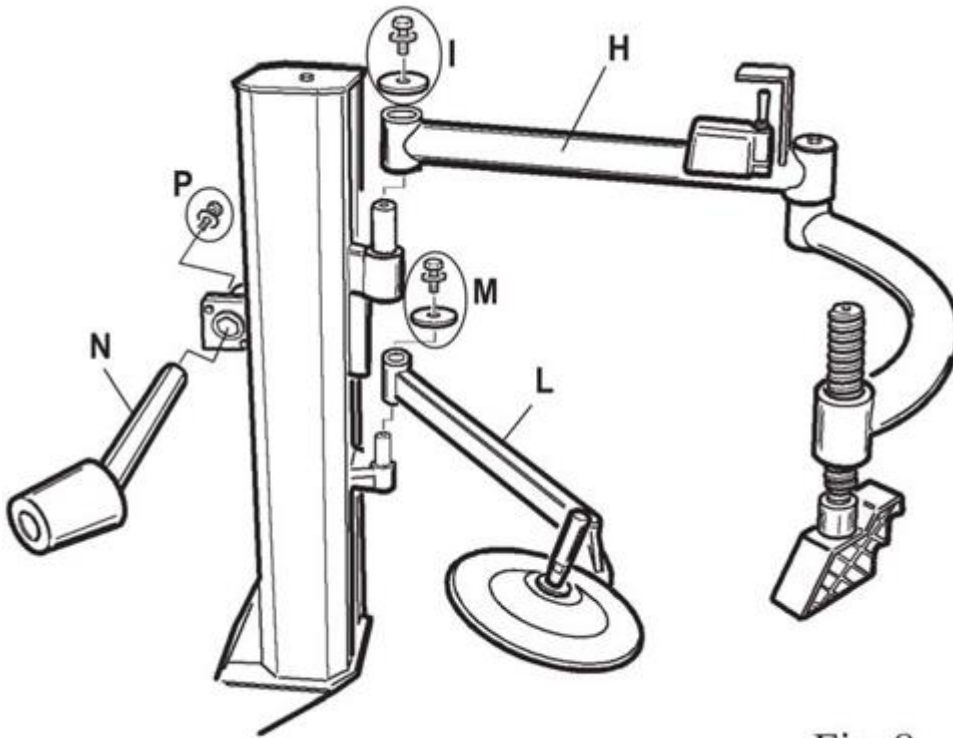

Fig. 8
- Position the mounting head as indicated by standard proceeding for tyre removal inside the installation, use and maintenance guide (if necessary, press roller against the tyre to facilitate the operation) (fig. 8).